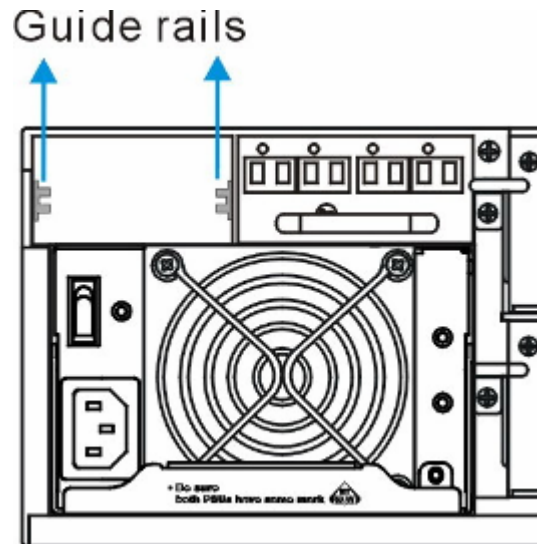

Figure 5-14: Inserting the Host Connection Module
Step 4. Install the I/O module by aligning the host connection module to the module bay. There are guide rails along the interior of the module bay. Insert the module properly and gently sliding it into until the back-end connectors are mated. (See *Figure 5-14*)